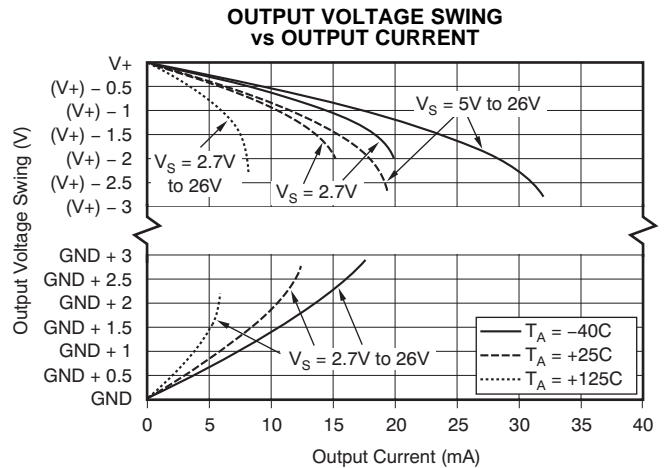

Figure 10.
(1) RTI = referred-to-input.
(2) See Typical Characteristic curve, Output Voltage Swing vs Output Current (Figure 10).